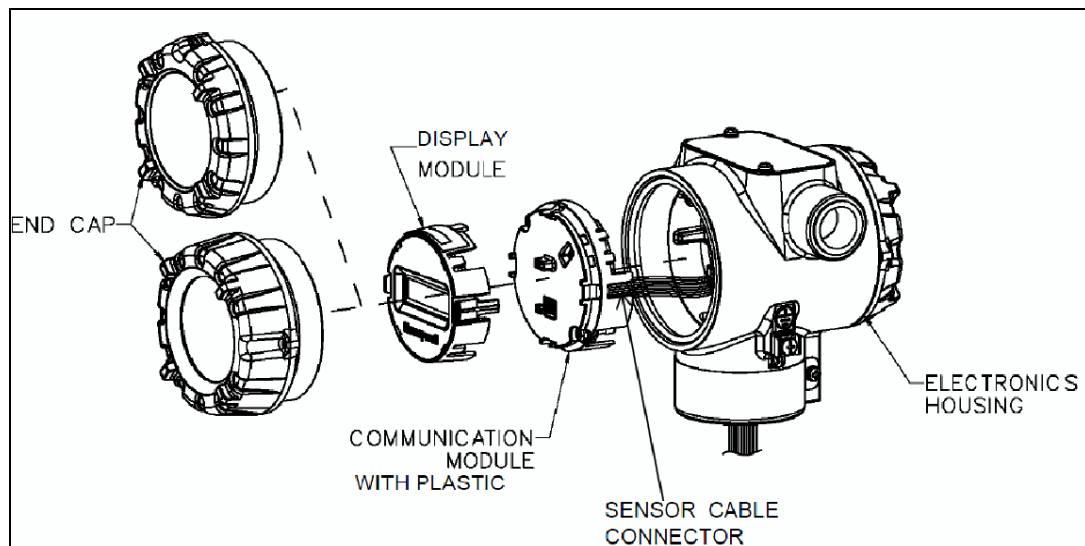

Figure 27 – Disassembly for Meter Body Replacement
4. Refer to Figure 27. Loosen the End Cap Lock, and unscrew the End Cap from the electronics side of the Transmitter housing.